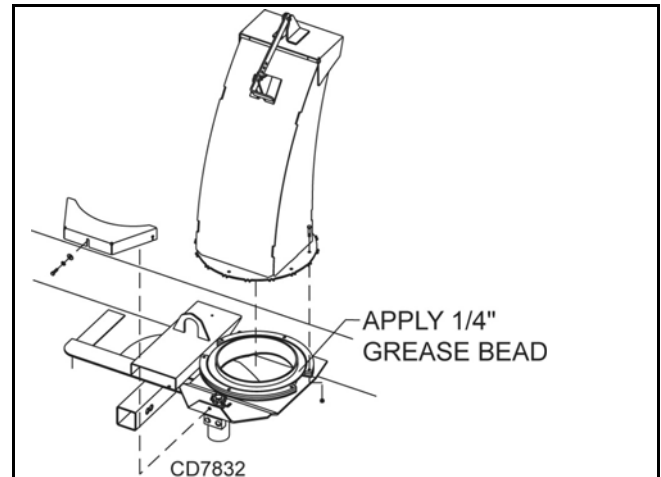

Figure 13. Chute Base and Rotator Ring
1. Apply grease between the discharge chute base and ring on the frame tube, Figure 13, annually.